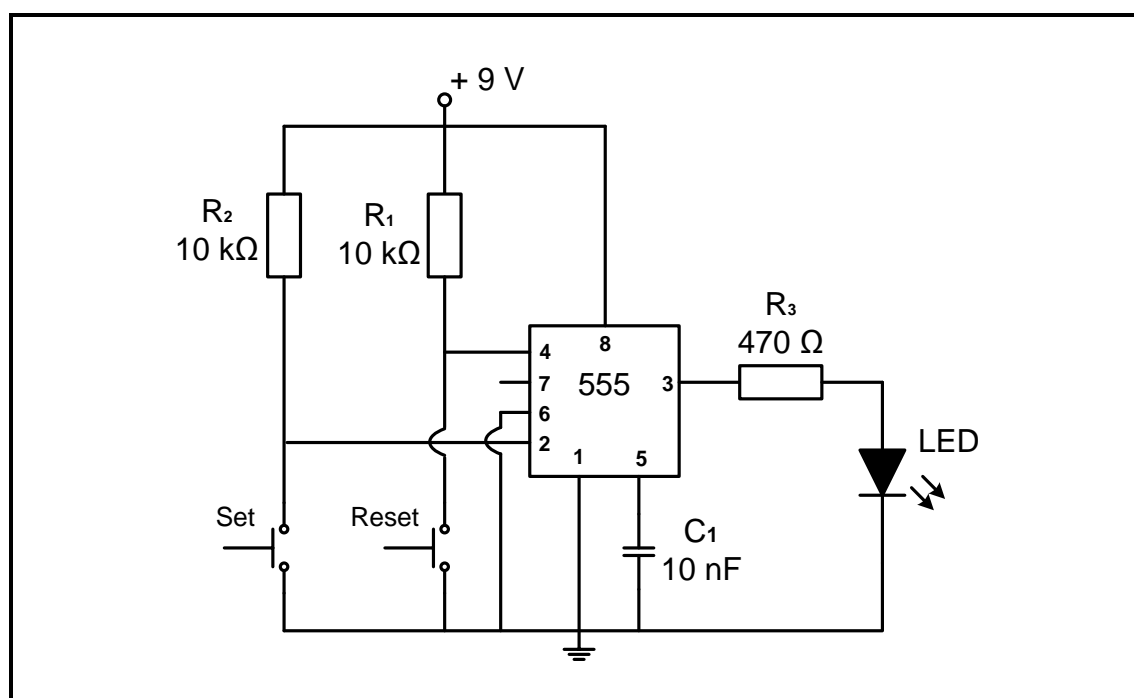

FIGURE 3.2: BI-STABLE MULTIVIBRATOR
3.2 Refer to FIGURE 3.2 below and answer the questions that follow.